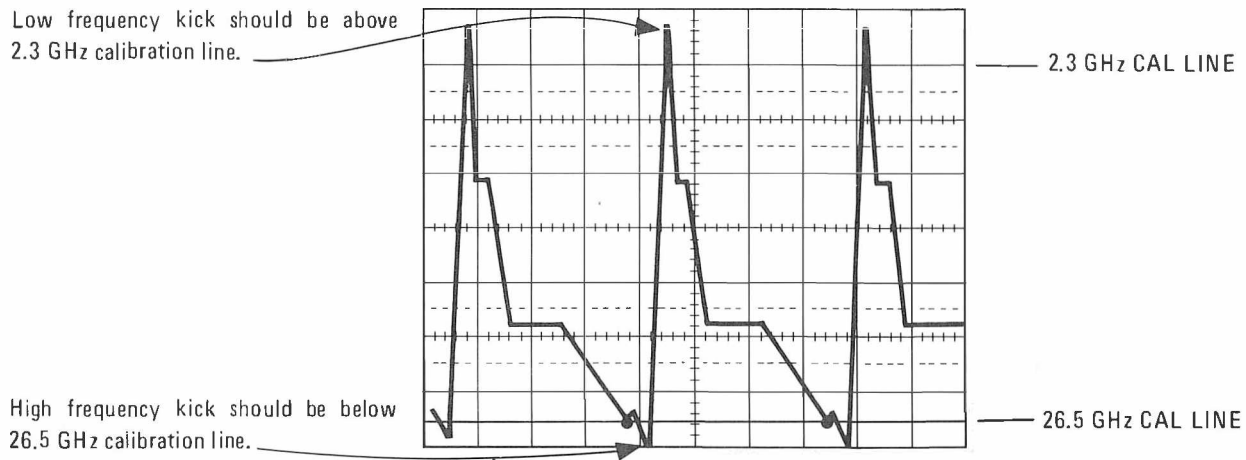

Figure 5-40. SYTM Kick Pulse Waveform.
17. Adjust A28R10 (HKCK) until the high frequency kick is about 300mV lower than the 26.5 GHz calibration line (Figure 5-40). Press **[SINGLE]** SWEEP key repetitively while adjusting A28R6 (DYO) and A28R7 (DYS) to match current 8755C trace with the stored trace to within 0.5 dB. Press **[CONT]** SWEEP and adjust A28R9 (LKCK) until the continuous sweep trace matches the stored trace to within 0.5 dB. Iterate between continuous sweep adjustments and single sweep adjustments to obtain the best match between the two 8755C traces. If the low frequency kick pulse cannot be made to fall above the 2.3 GHz calibration line and match the continuous sweep and single sweep traces, readjust A28R10 (HKCK) and repeat the procedure. The peaks of the oscilloscope kick pulse trace should be below the high frequency point (negative peak) and above the low frequency point (positive peak). Refer to the kick pulse waveform shown in Figure 5-40.